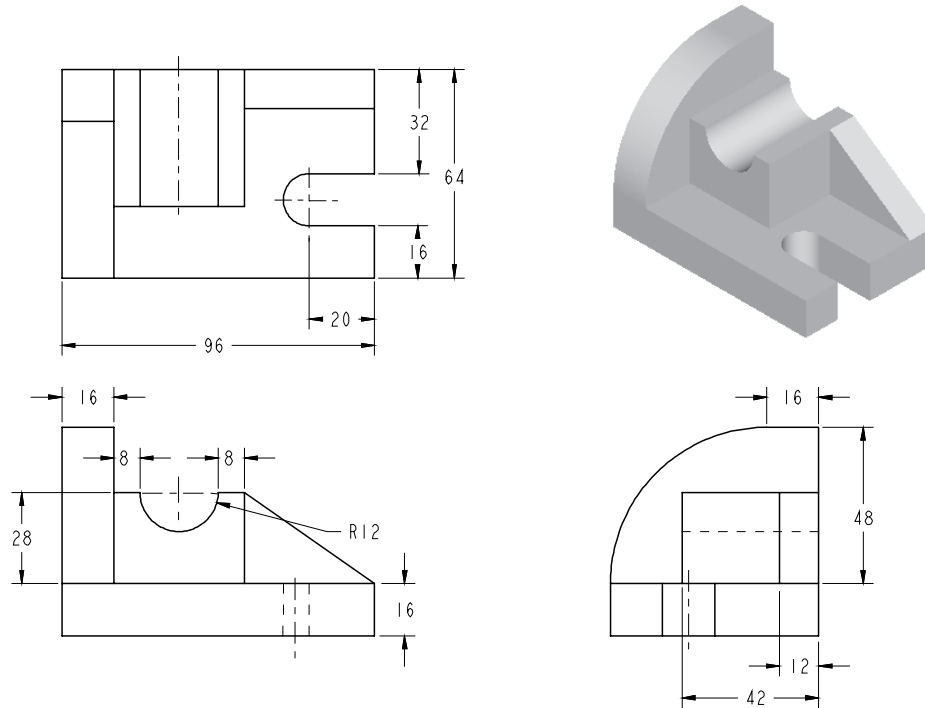

Figure 4-62 Top, front, right-side, and isometric views of the model
In this tutorial you will create the model shown in Figure 4-62. This figure also shows the front view, the top view, and the right-side view of the solid model. **(Expected time: 45 min)**
- First, examine the model and then determine the number of features in it, see Figure 4-62. The model is composed of four features: one at the bottom (base feature), one on the left, and two at the back. Also, from the model it is evident that the two features on the back face of the model can be created on the same plane.